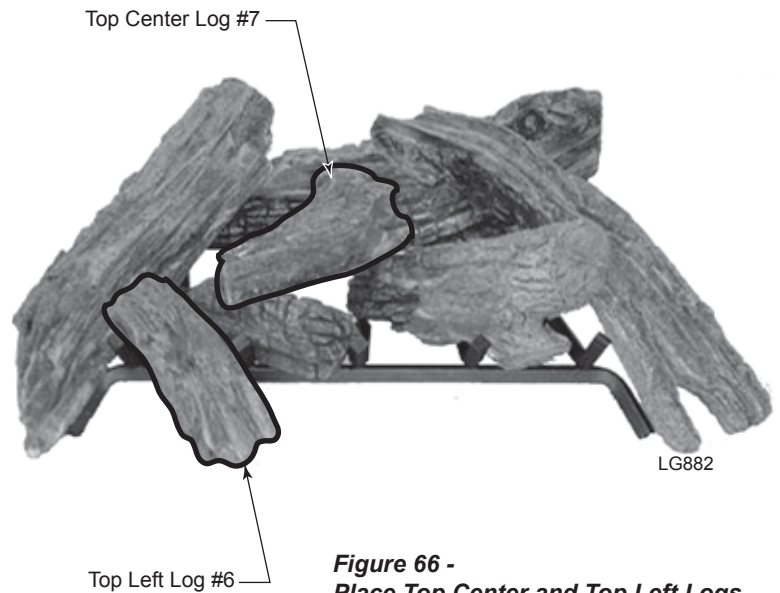

**Figure 66 -
7. Place end of Top Left Log #6 on bottom left log. Rest the other end between the first and second grate prongs. *Figure 66*
8. Rest Top Center Log #7 on bottom left log #2 and back log #1. *Figure 66*